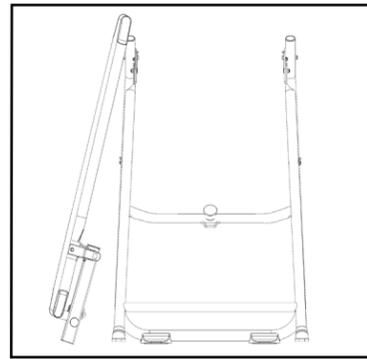

Figure 3
- For ease of assembly, rest the Table Bed against the side of the A-frame (Figure 3).